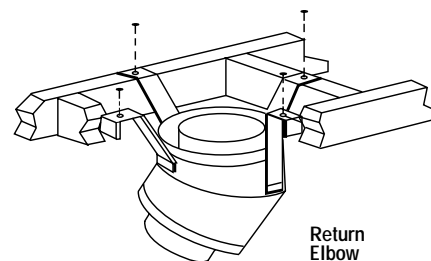

Figure 39
Step 5. Secure support straps to framing members by nailing under tension in shear (Figure 39).